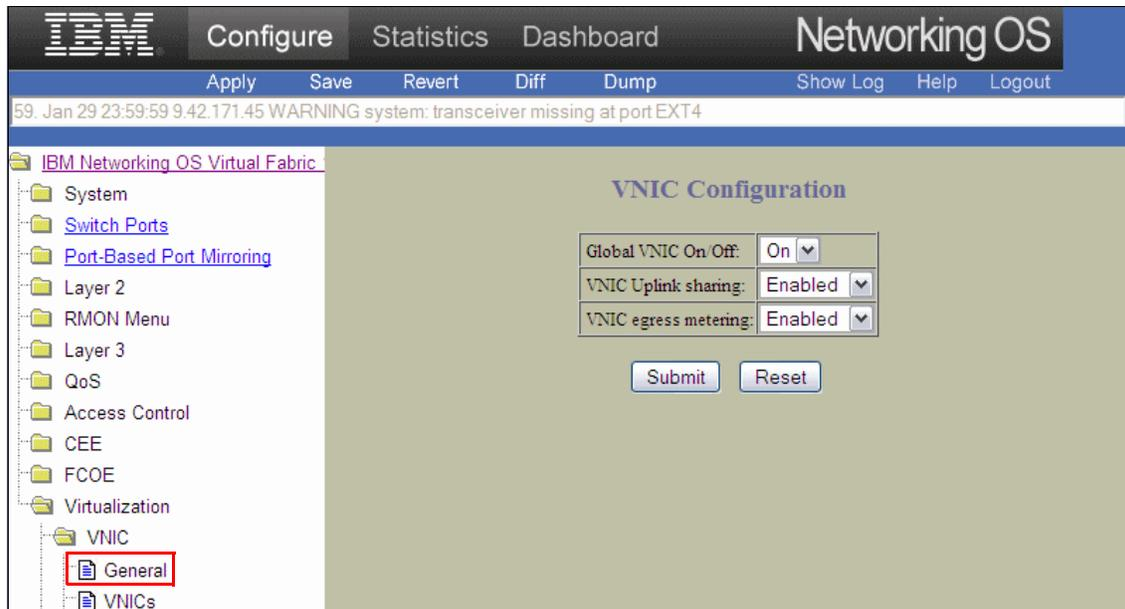

Figure 6-1 Enabling vNIC operations on the vNIC Configuration panel
1. On the **Configure** tab of the BBI, to enable vNIC operations, expand **Virtualization** → **VNIC**, and select **General** (Figure 6-1).